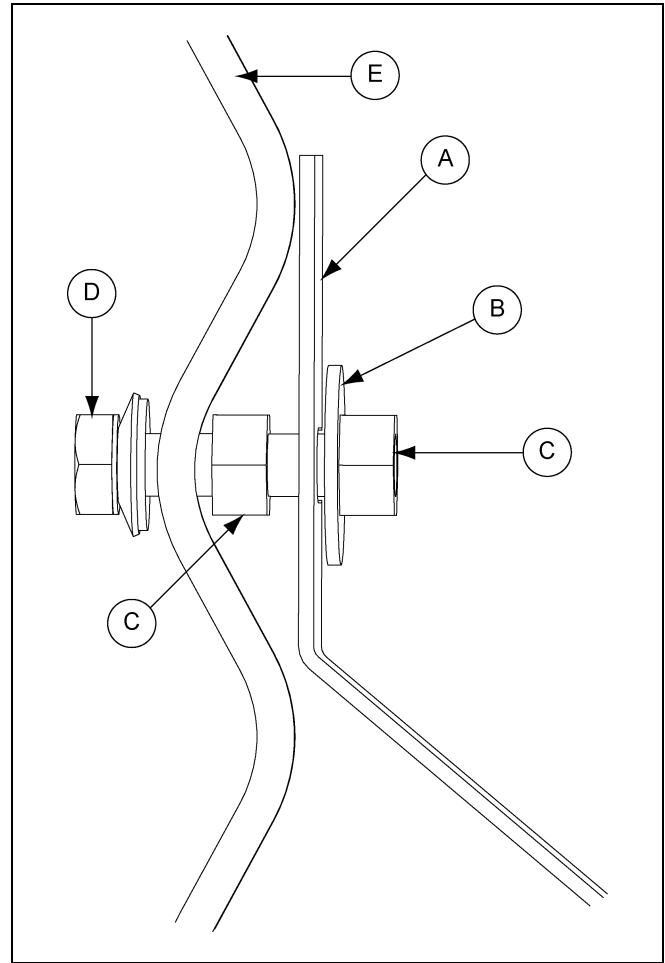
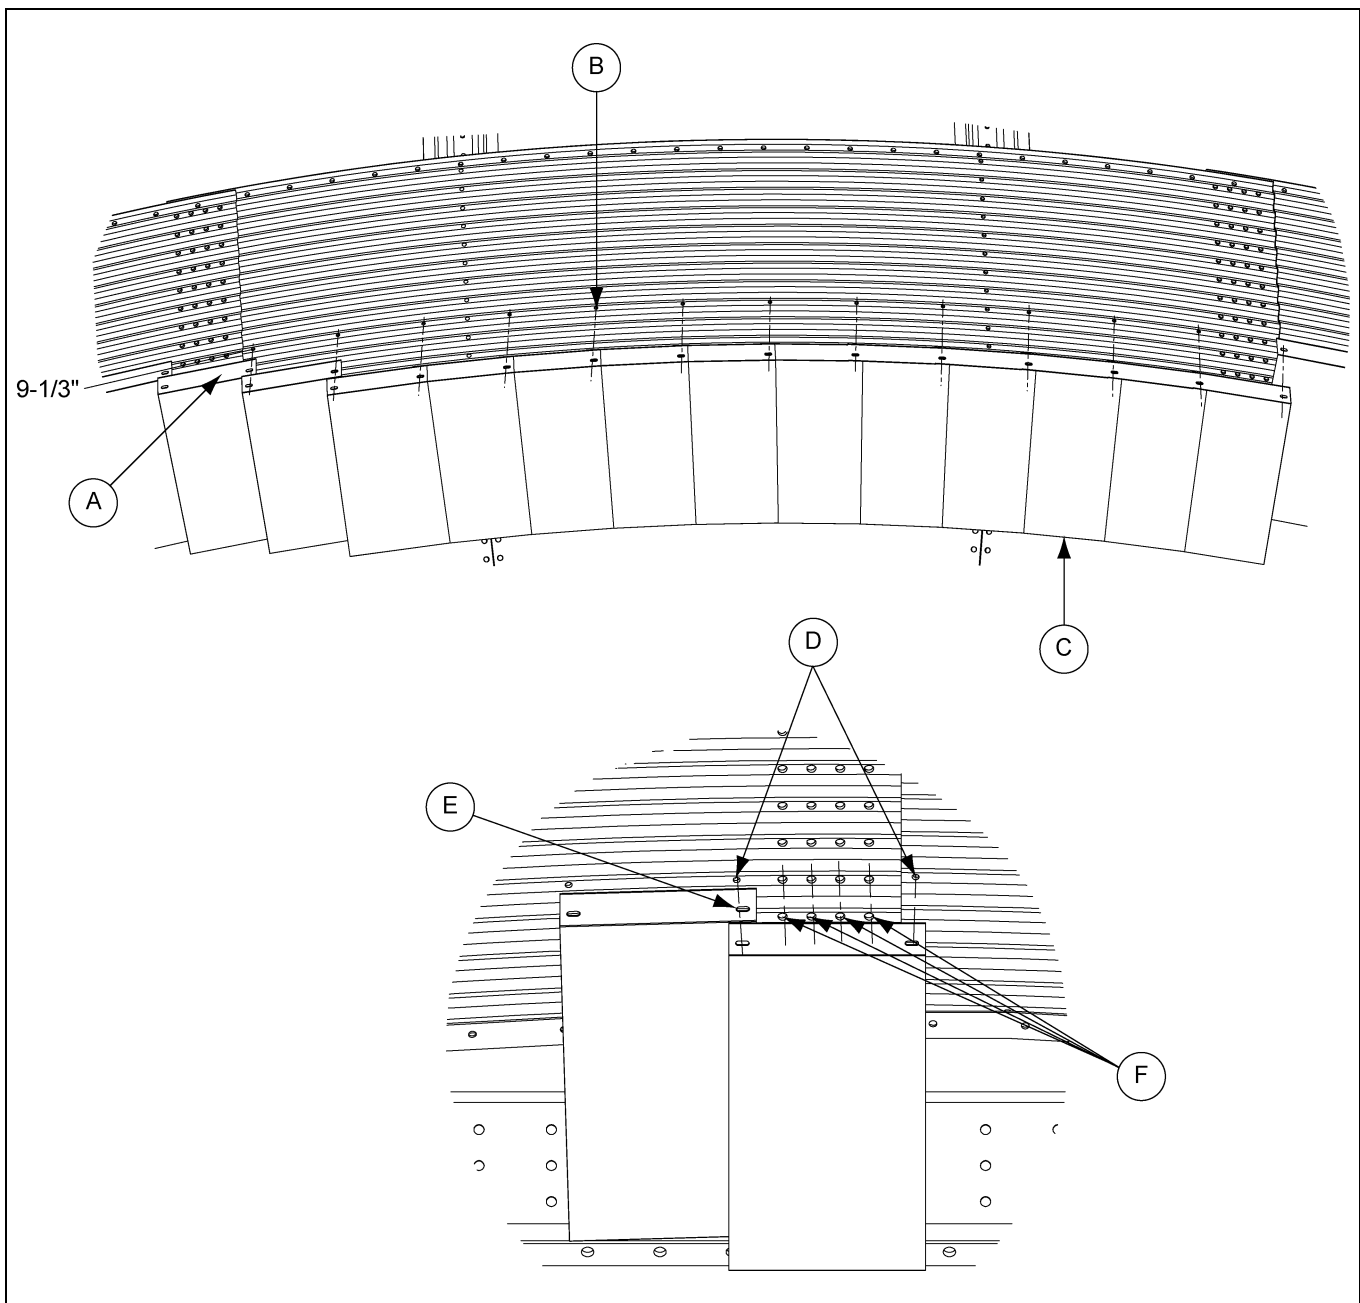

Figure 11B Vertical Seam Flashing Hardware
Figure 11C
3. At vertical seams attach flashing (A) that is to span the vertical seams using both left and right holes. Drill flashing holes from the outside of the bin through the sidewall sheet (E) holes. Remove drilled flashing (A) and assemble vertical seam bolts and nuts (C and D). (See Figure 11C on Page 70.) Replace drilled flashing (A) and attach according to Figure 11B. Continue around the bin clockwise.